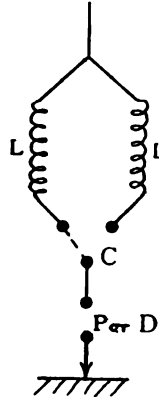
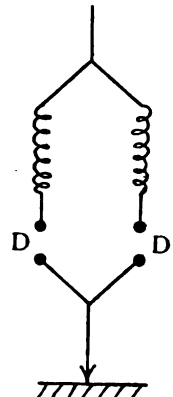
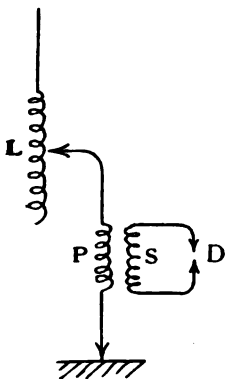
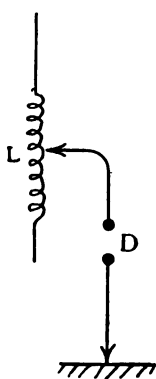

FIG. 4.
FIG. 3.
FIG. 1.
FIG. 2.
detectors, which need only be connected between an adjustable self-induction coil and the earth or lower capacity area. (2) Where an oscillation transformer is employed, atmospheric disturbances usually pass quietly through the primary coil to earth, but we know of no other way of getting rid of them. Fig. 1 represents one adjustable coil with oscillation transformer; Fig. 2, one coil with detector direct to earth; Fig. 3, two coils of different self-induction, with change-over switch; Fig. 4, two different coils with two detectors, where P—primary of transformer, S—secondary of transformer, C—change-over switch, L—self-induction coil, D—detector.